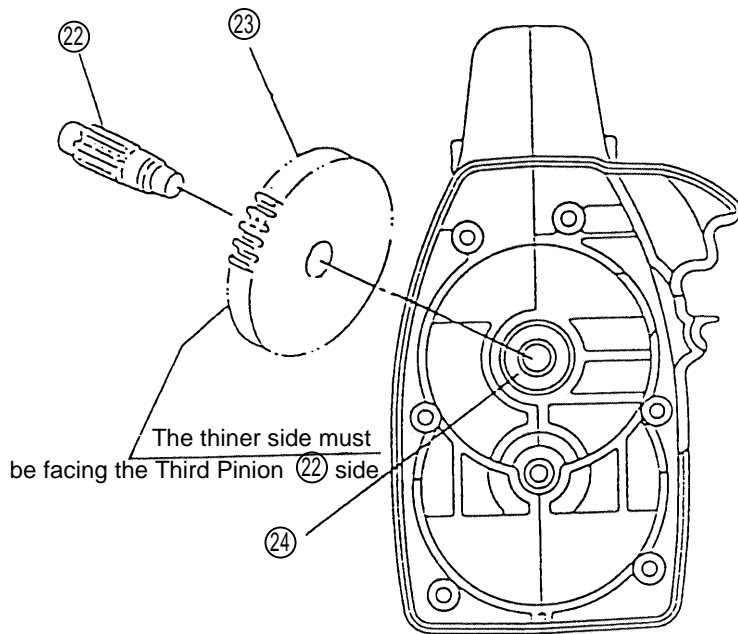

Fig. 21
- (i) Insert the 608VVMC2EPS2L Ball Bearing into the bearing chamber of Housing (A) (2). (See Fig. 21)
- (ii) Press fit the Third Pinion (22) into the Second Gear (23), being very careful of the mounting direction, and install them into the 629VVM2EPS2L Ball Bearing (21) of the Gear Cover (20) (See Fig. 21). At this time, apply grease (Hitachi Motor Grease Code No. 930035, is recommended) to the outer periphery of the Second Gear (23).